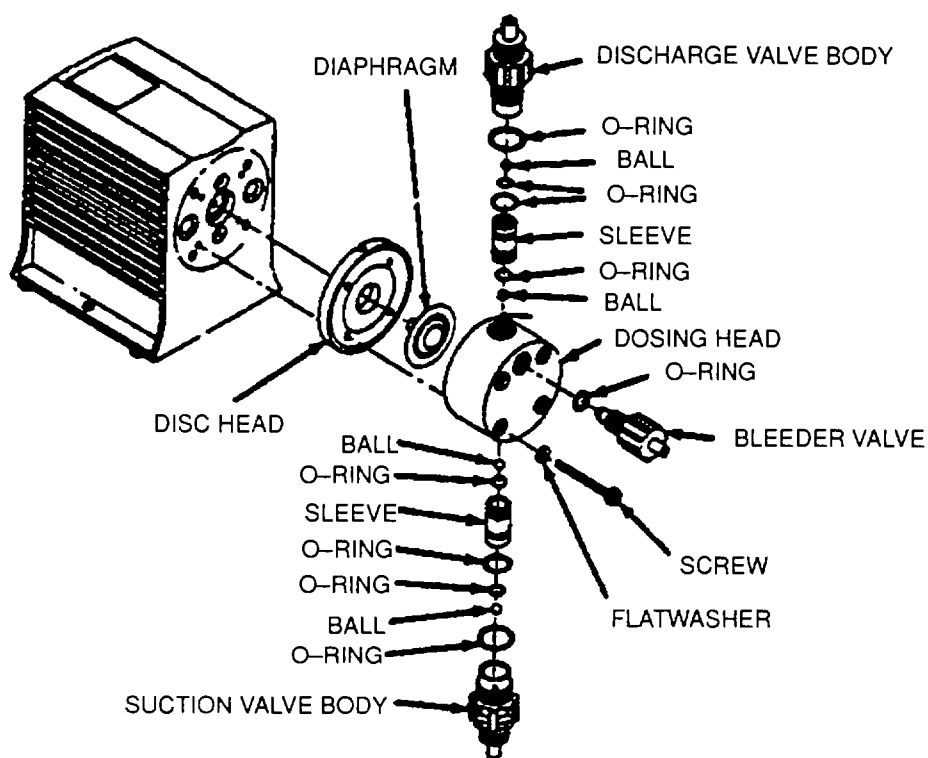

Figure 4-2. Chemical Metering Pump Maintenance
- b. Once pump is removed, disassemble dosing head (Figure 4-2) as follows:
- (1) Remove four screws and flatwashers holding dosing head to pump. Remove dosing head, diaphragm, and disc head.